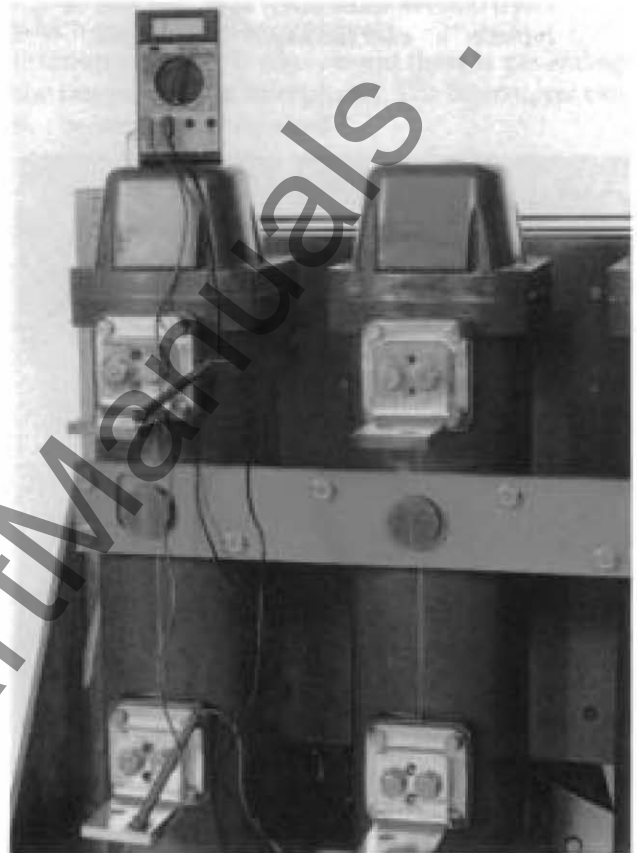

Figure 13: Monitoring Interrupter for Contact Closure
9. Attach a test light or ohmmeter (figure 13) between the terminals of each interrupter to indicate the contact "make" point.